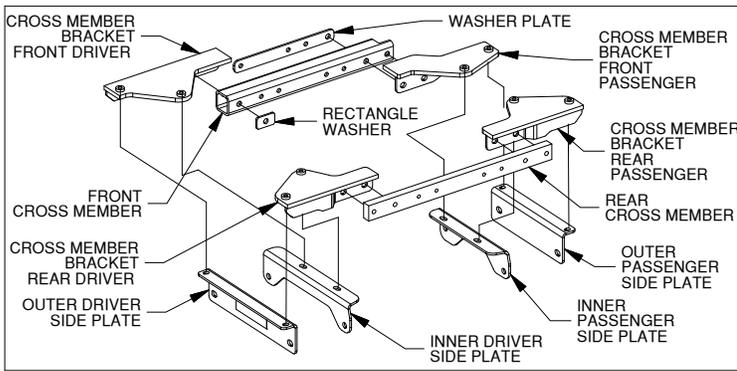
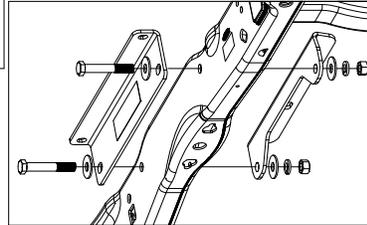
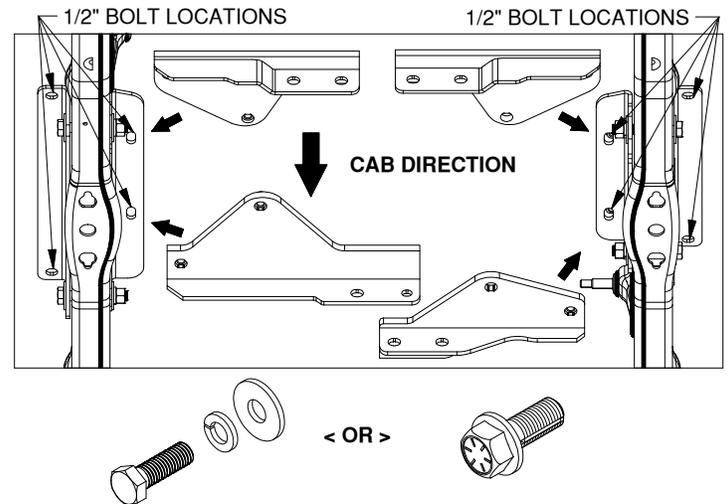

Figure B1: Side plates and Mounting Kit Exploded View
Figure B3: Driver Side Side plates
Figure B5: Bottom of truck frame looking up from the back of truck towards the cab
3. **Install side plates.** Locate the outer and if needed the inner side plates, see Figure B1. Install the side plates as shown in Figures B3 & B4, so that there is a side plate on the inside and outside of each frame member. Attach the side plates to the frame using 5/8" x 4" bolts, two flat washers, lock washer, and nut, as shown in Figure B3. Fasten hardware until the side plates are flush against frame.
5. **Install Cross Member Brackets.** Locate the four cross member brackets as shown in Figure B1, and the eight 1/2" bolts with an added thread locker. Attach these brackets to the inner and outer side plates using these bolts. If the bolts with thread locker are cap screws without a flanged head, also add a flat and lock washer, see Figure B5.